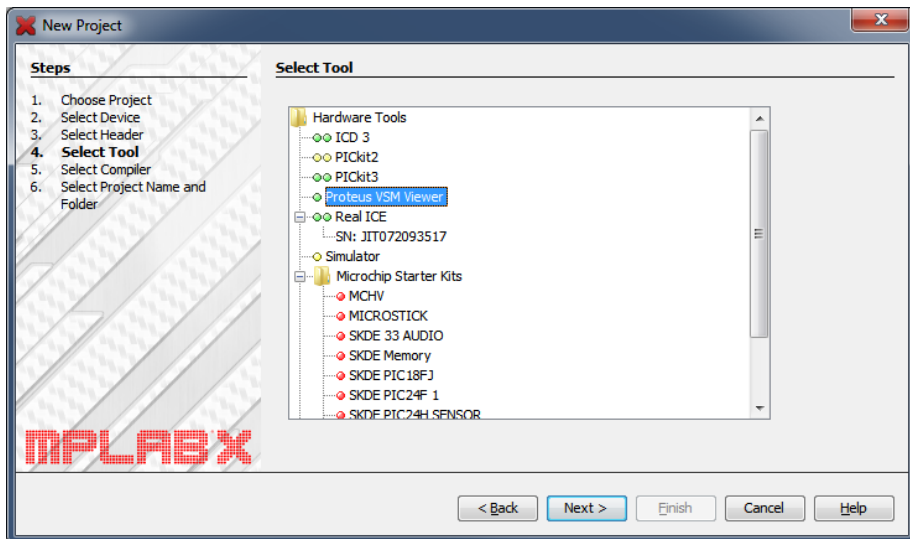

Figure 1.5
- If attending the class online or you have no hardware tools available, choose the **Proteus VSM Viewer** (see figure 1.5).